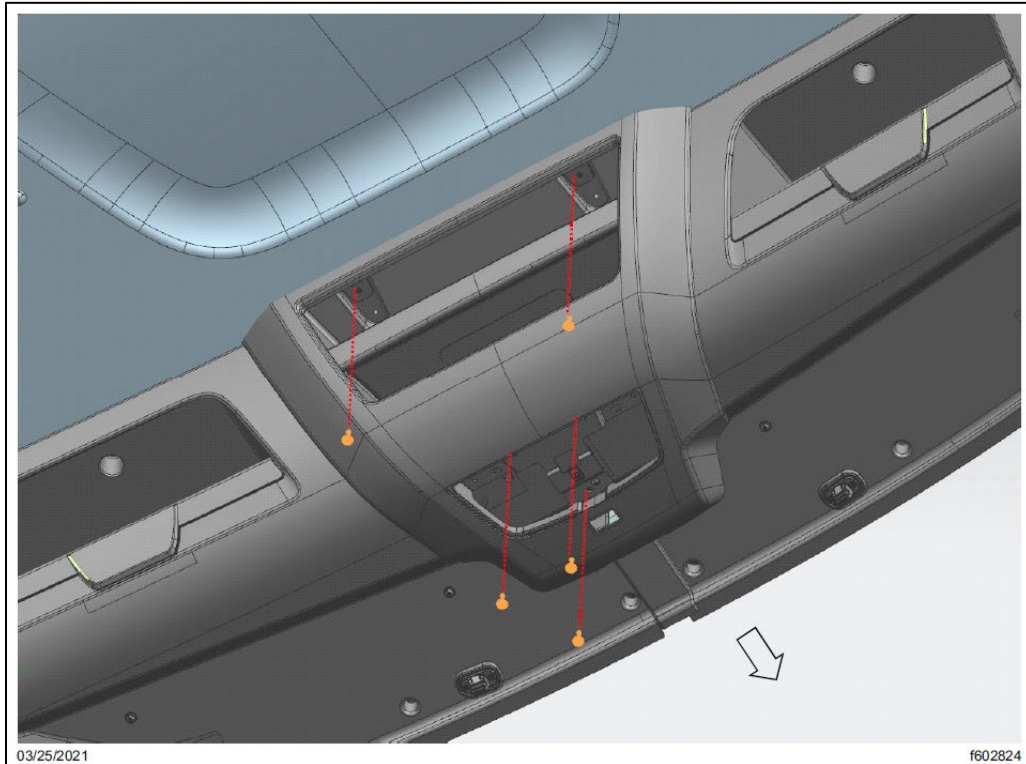

Fig. 15, Day Cab Center Bezel Removal
- 2.2. Remove the five fasteners that attach the center bezel to the center storage bin, and then remove the center bezel from the vehicle. See Fig. 15.